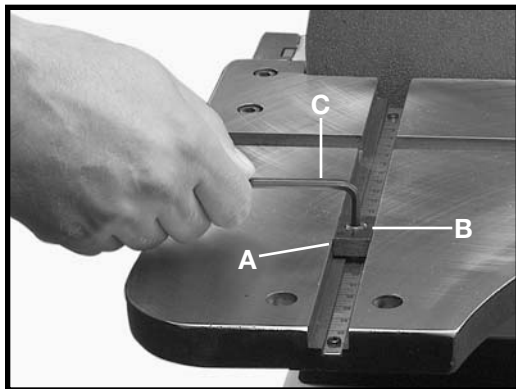

Fig. 37
2. Insert the stop block (A) Fig. 37 into the slot in the sanding disc table. Line up the end of the outside edge (B) of the block to the diameter of the circle shown on the scale. Tighten the screw in the stop block with the supplied wrench (C) to hold the block (A) in place.